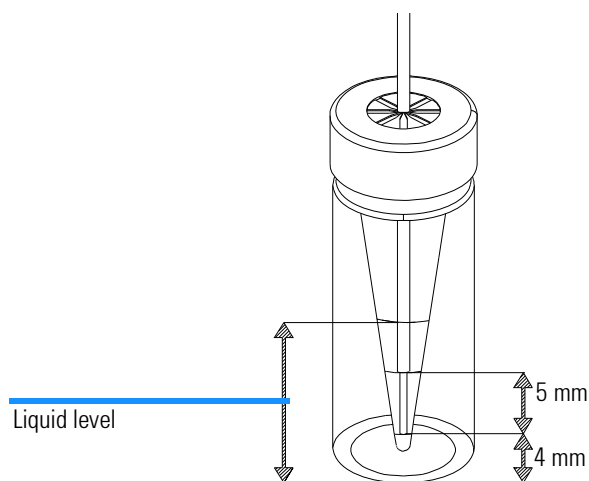

Figure 25 Liquid level and lift offset for standard electrodes
- Ensure an adequate liquid level for sample, buffer and waste vials. See Figure 25 on page 117.
The recommended maximum liquid level in the vials is 1.8 cm measured from the bottom of the vial (see Figure 25). The minimum level depends on the type of liquid the vial is used for (sample, buffer or waste).
Liquid Level = L = Lift offset + 5 mm up to electrode + 1 mm guard band = 1 cm. See Figure 25.